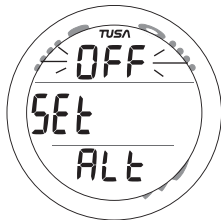
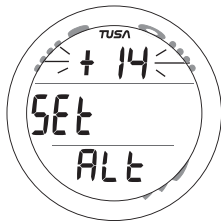

Fig. 16A - SET ALTERNATE TIME
Fig. 16B - SET ALTERNATE TIME
- > Set Point graphic OFF (Fig. 16A) or numeric (Fig. 16B), flashing.